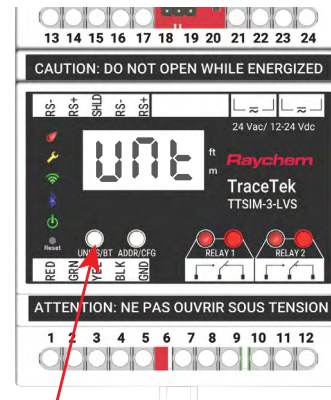

Figure 9. Units button
- Press the Units button as shown in Figure 9 and hold it for approximately 3 seconds, until the display shows “Unt”. The Bluetooth, WiFi, Service and Leak LEDs flash simultaneously during this operation.